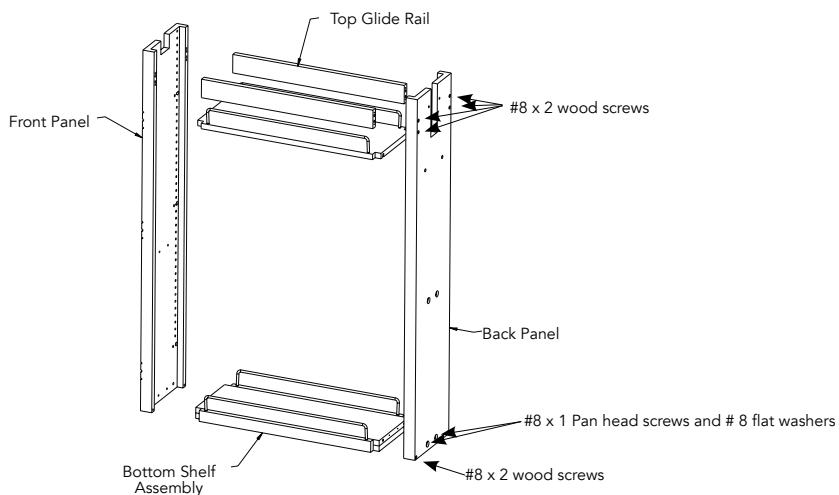

FIG. 4A
Attach the floating back plate to the pantry's rear while ensuring it is in its lowest position. Insert the tapered barrel nuts (5" pantry will only require a single barrel nut) into the slot of the floating back plate and secure it through the front of the back panel with (1) or (2)* 1/4-20 x 1 flat head machine screws (See Fig. 4A and 4B).